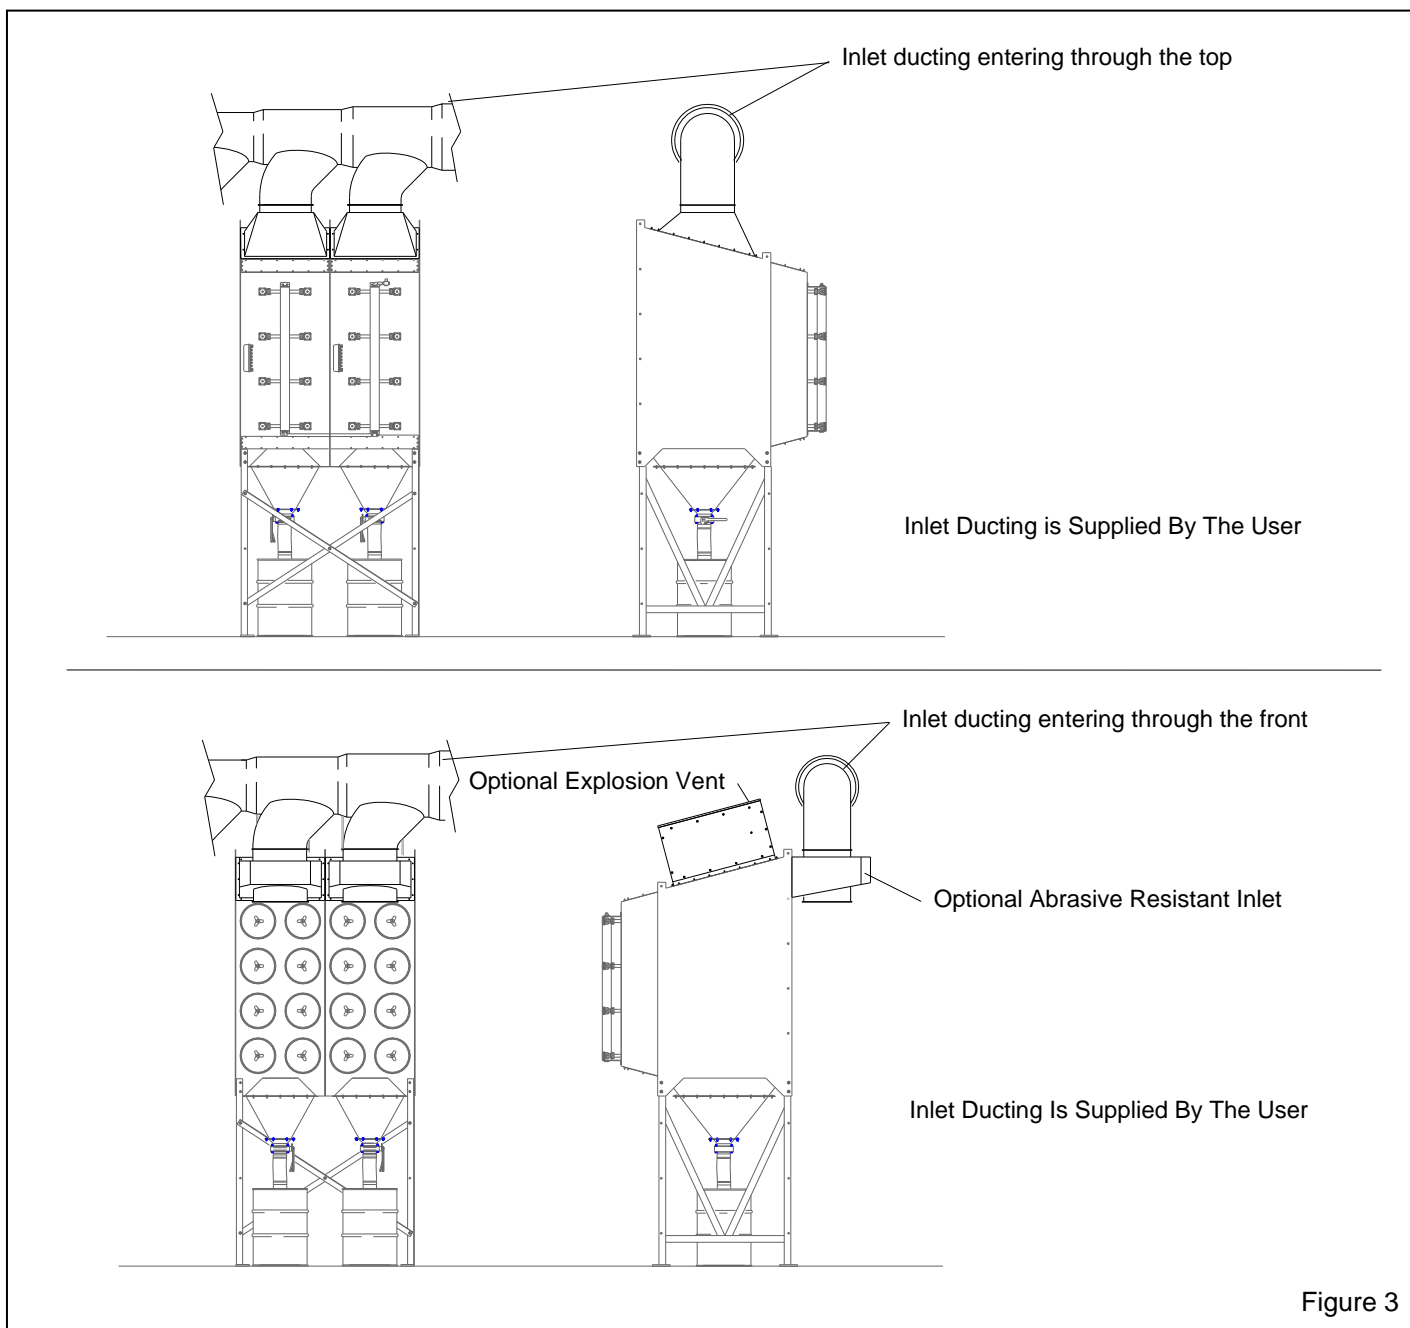

Figure 3
2.6.4.1 The illustration in Figure 3 shows typical inlet ducting. The illustration is for reference only; it is not to be used to fabricate ducting.